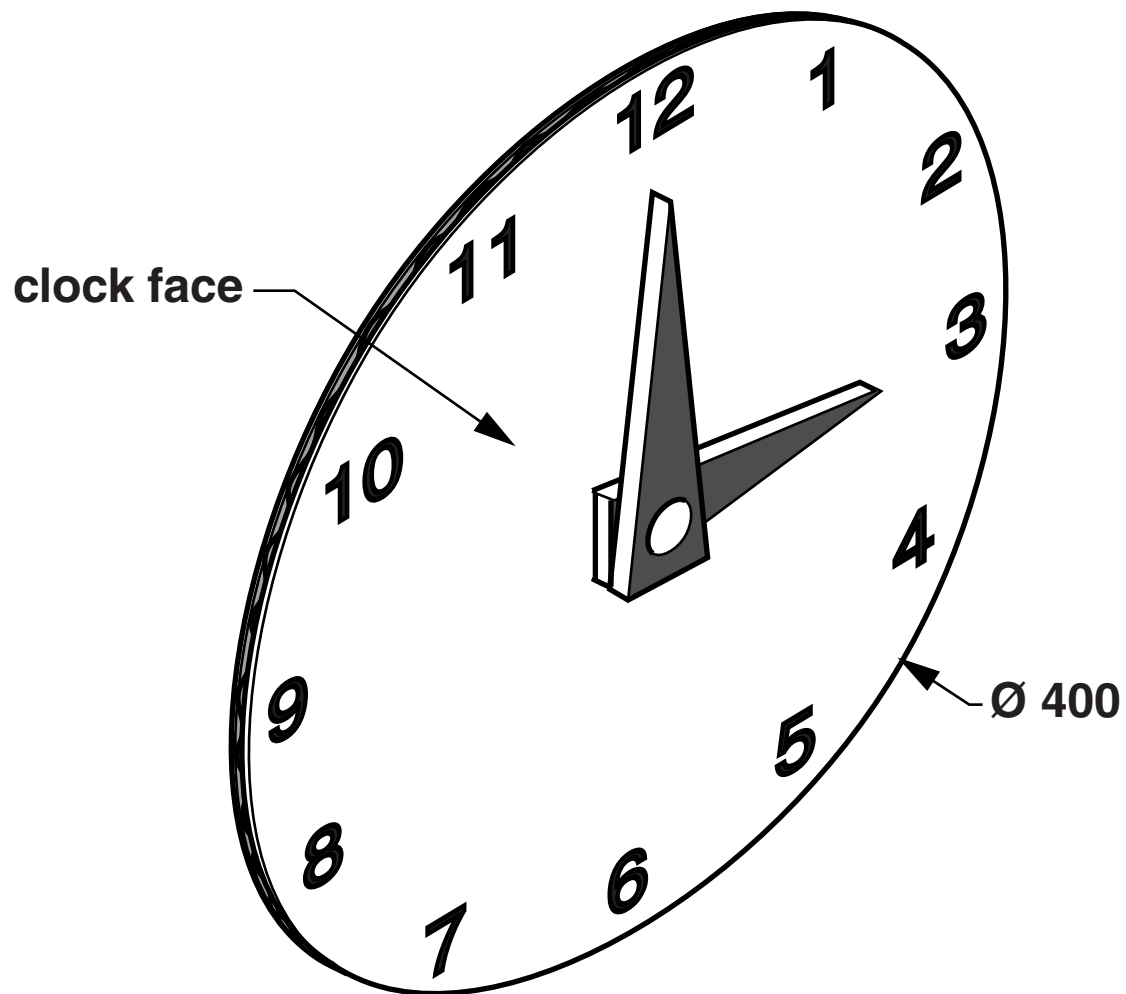

Fig. 4
- 3 Fig. 4 shows a teaching aid to help children tell the time. The teaching aid is made from 4 mm thick Corriflute.